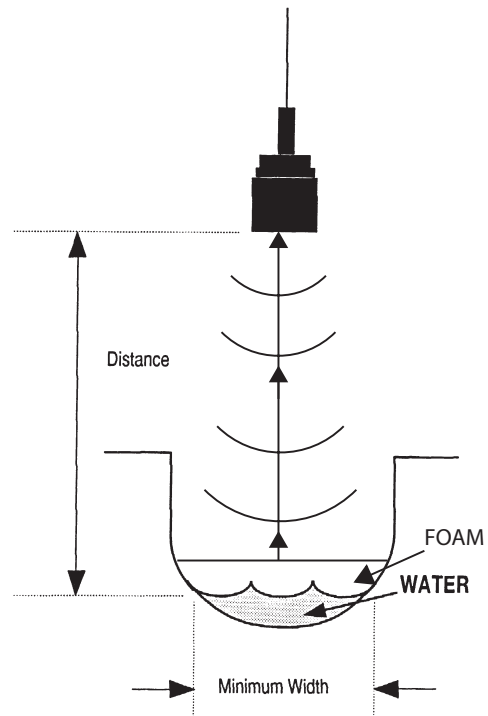

Figure 3-6 Foam and Oil on the Surface of the Stream
**Avoid Foam, Oil, and Turbulence** – If the flow stream surface is absorbent (such as with foam) or very irregular (such as highly turbulent water), the ultrasonic echo may not be correctly reflected back to the ultrasonic level sensor. This can result in a false measurement or no measurement at all. If the foam is reflective, the system will detect the top of the foam rather than the liquid surface. Also, if grease or oil is floating on the flow stream surface, it will be detected rather than the liquid surface. (See Figure 3-6.)